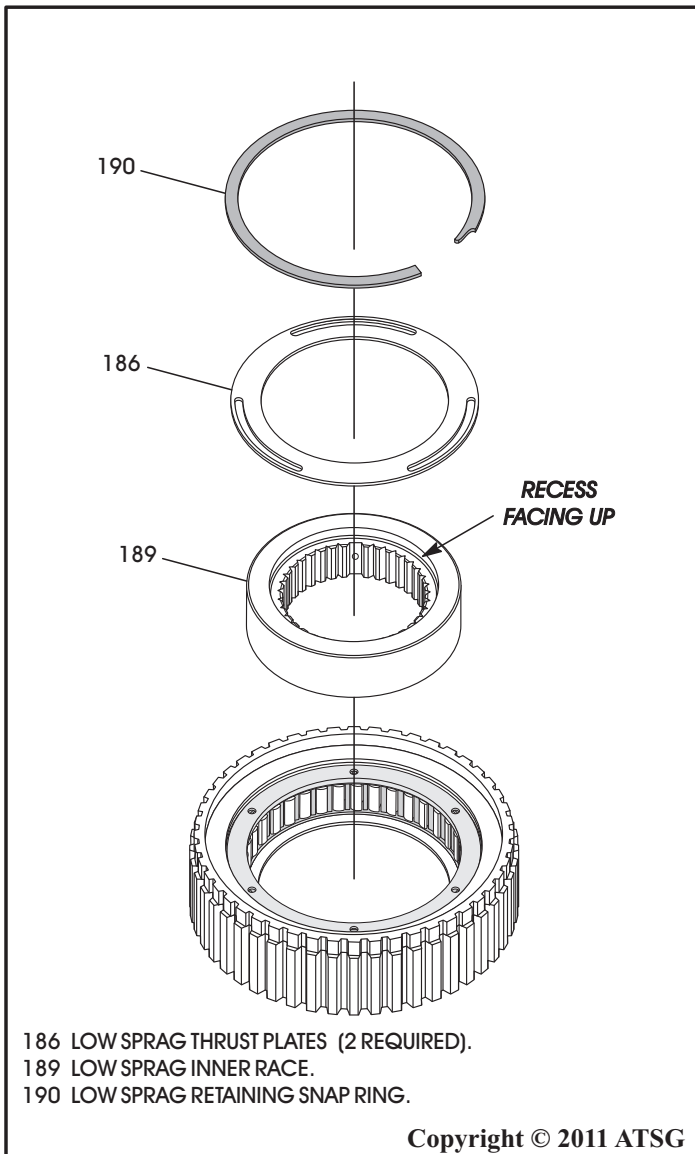

Figure 70
10. Lubricate the inner race with Mopar® +4 fluid and install with a counter-clockwise motion, as shown in Figure 70.
*Note: The recess on inner race should face up as shown in Figure 70.*
11. Install the second low sprag thrust plate, as shown in Figure 70.
12. Install the low sprag retaining snap ring, as shown in Figure 70.